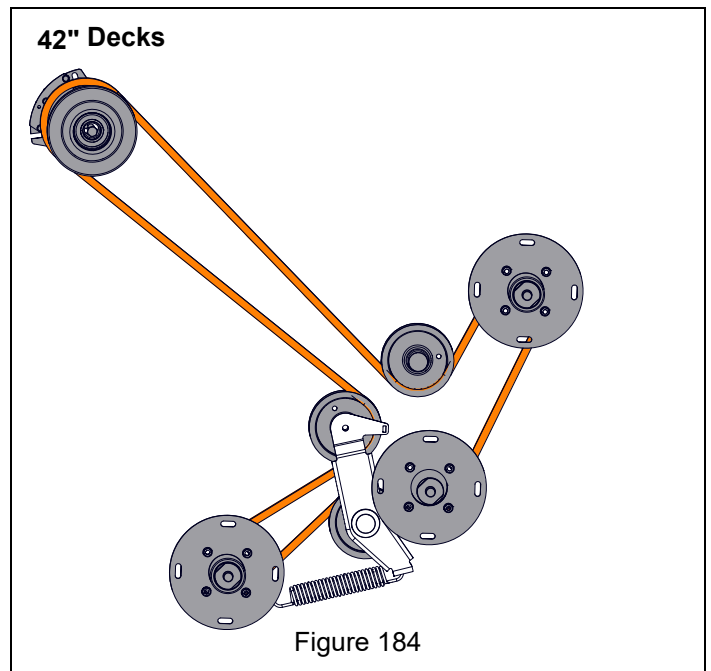

Figure 184
1. Install deck drive belt. See Figure 184, 185, and 213.